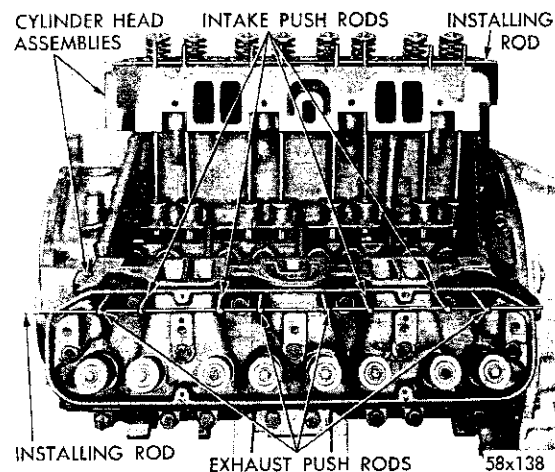

Fig. 8—Push Rods Installed
(5) Inspect the push rods and replace any worn or bent rods.
(6) Install the push rods with the small ends in the tappets maintaining alignment, using rod, as shown in Figure 8.